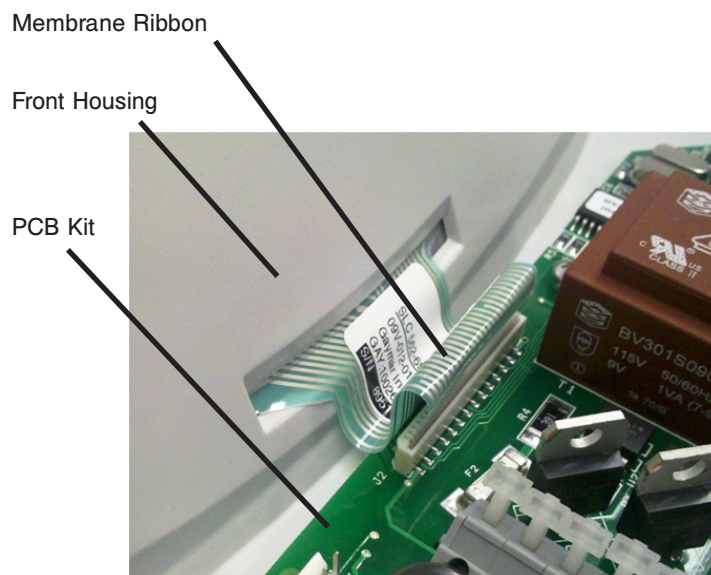

Figure 11: Ribbon Cable Routing
8. When needed, the membrane ribbon must be routed as shown in Figure 11. This prevents interference between the ribbon and moving components.